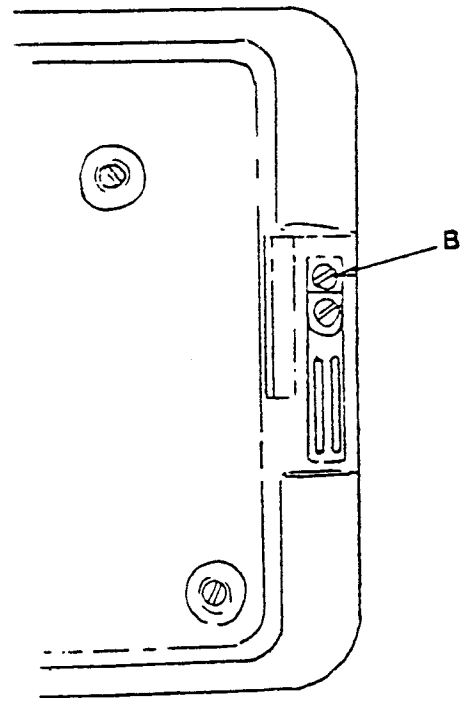

Fig. 6-1
NOTE: Arm front cover screw (B), Fig. 6-1, can be removed without removing the bottom cover if "quick-driver" is available at hand.